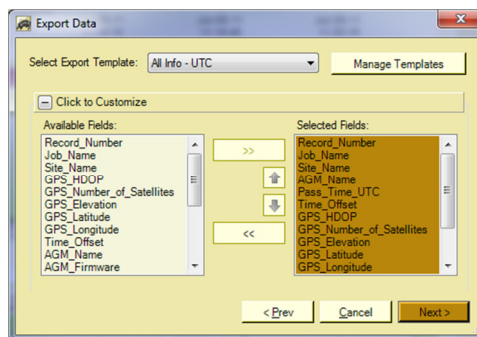

Figure 36 – Choose Export Template
4. Choose an export template. There are built-in templates that you can use, or you can create your own (see Figure 36 – Choose Export Template, below).
To create or manage your list of Export Templates, you can click on Manage Templates during the export flow (see Figure 36 – Choose Export Template), or you can click on *File > Manage Export Templates*.